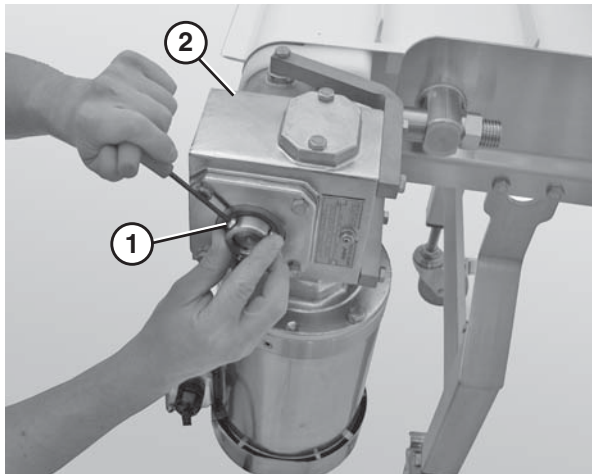

Figure 26
- Loosen the drive spindle fasteners (Figure 26, item 1) located on the inside and outside of the gearmotor assembly using a 4 mm hex wrench (Figure 26, item 2).